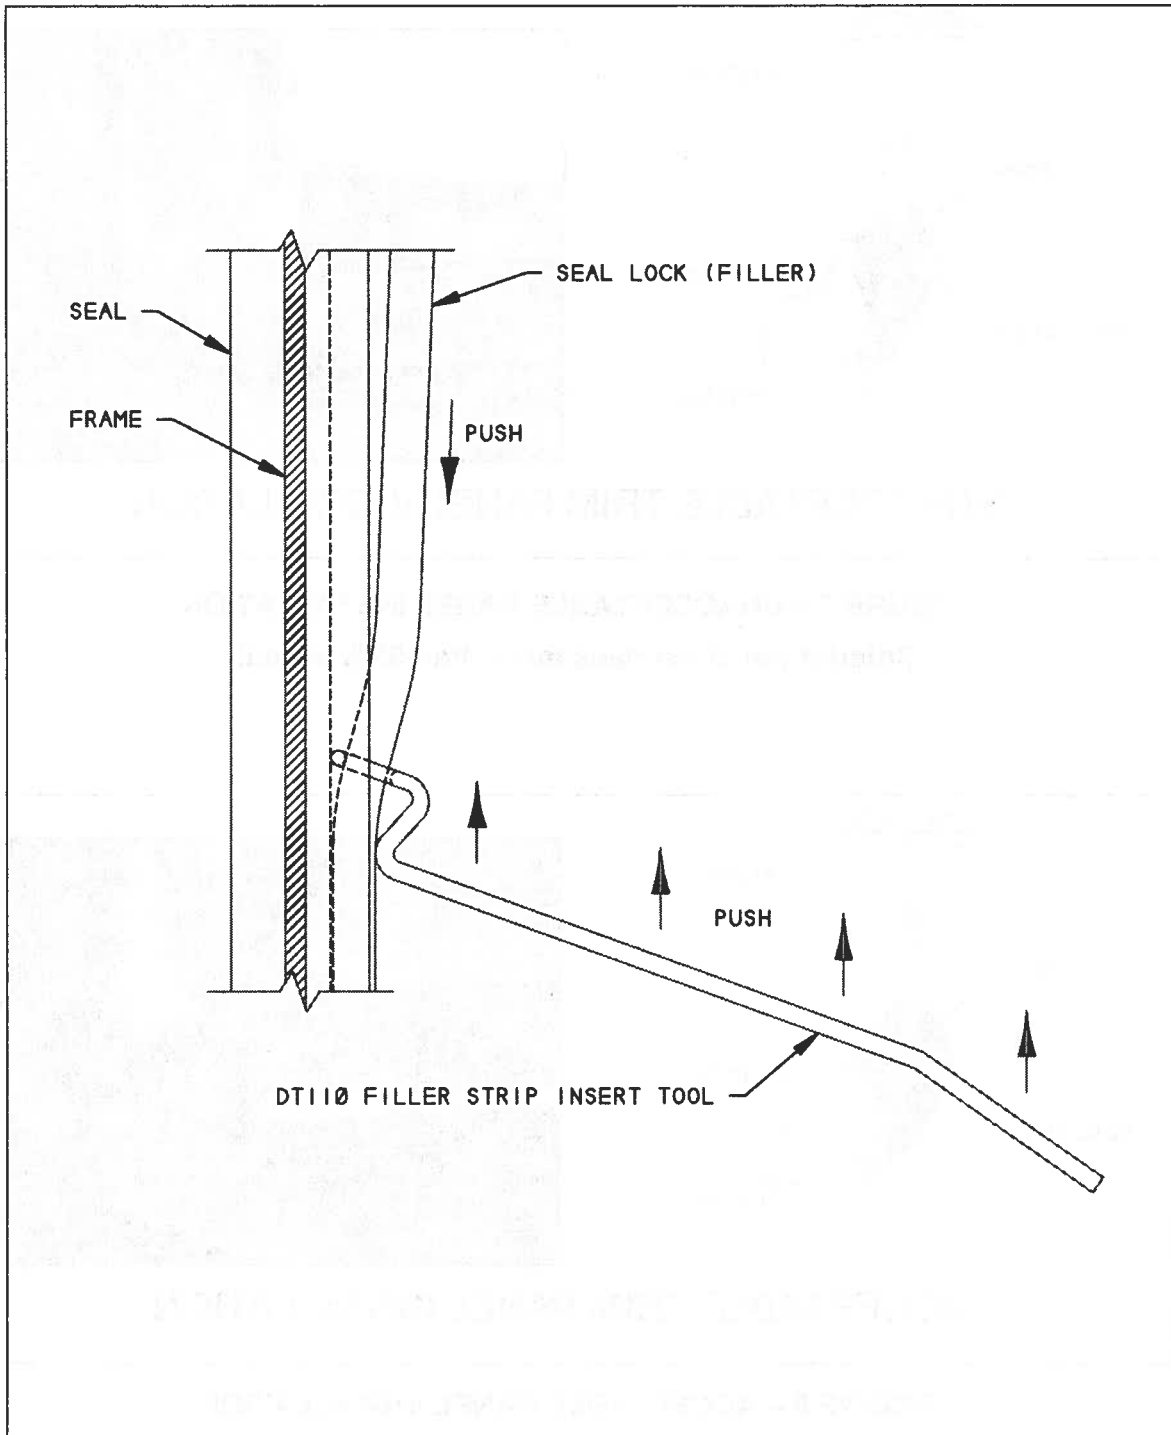

FIGURE 6 – SEAL LOCK (FILLER) INSTALLATION
13. Starting at the 12 o'clock position, install provided Seal Lock (407-210-103) into seal insert groove using provided Filler Strip Insert Tool (DT110), while pushing the seal lock through the tool to keep it from stretching (see Figure 6). Seal lock is precut to proper length, do not trim. Work seal lock around until it fits properly.